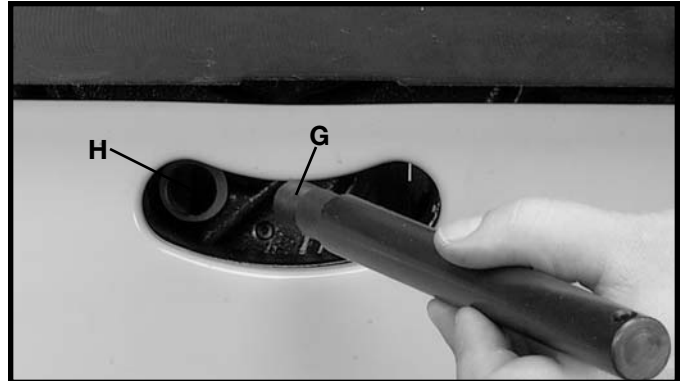

Fig. 18
5. Insert threaded end of support rod (G) Fig. 18, through slot in rear of saw and into hole in rear trunnion (H). Fasten support rod (G) to trunnion with star washer and hex nut (J) Fig. 19. NOTE: Thread nut (J) Fig. 19, onto threads of support rod (G) as much as possible by hand.